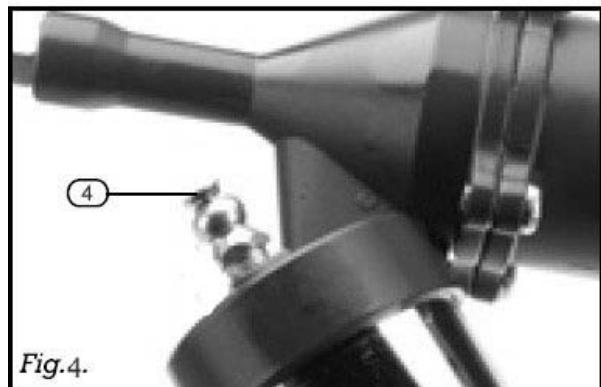

Fig.4.
BLEEDING THE CHAMBER (Fig. 4): After filling the chamber with grease, any trapped air pockets will need removing. Press valve ④ for a couple of seconds.